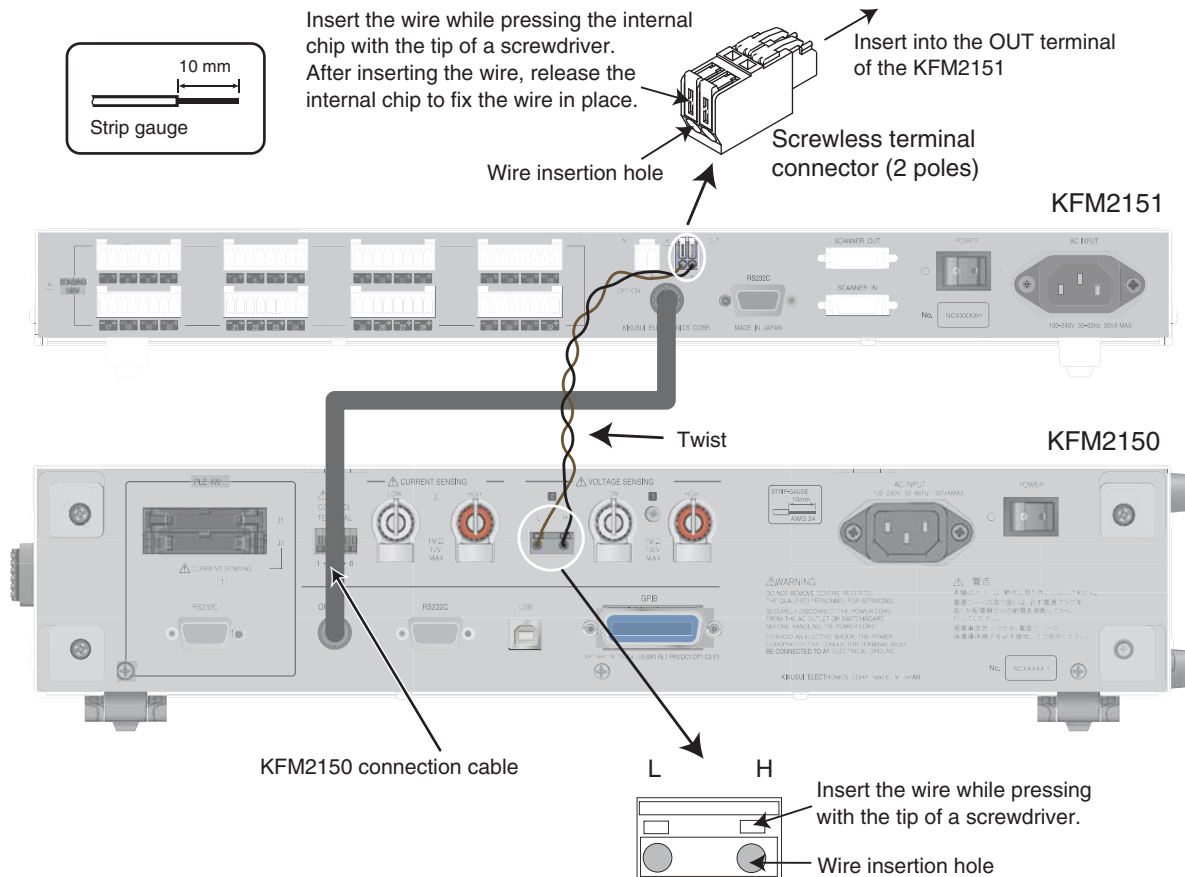

Fig. 2-13 Connecting the KFM2151 and KFM2150
Use AWG24 wires. Remove 10 mm of the covering from the wire end. Using the strip gauge shown in Fig. 2-13 will ensure proper work.
- 2 Using a screwdriver, insert the wire into the screwless terminal connector (2 poles) provided as shown in Fig. 2-13.
- 5 Connect the other end of the wires to the VOLTAGE SENSING terminal (channel 2) of the KFM2150 as shown in Fig. 2-13.